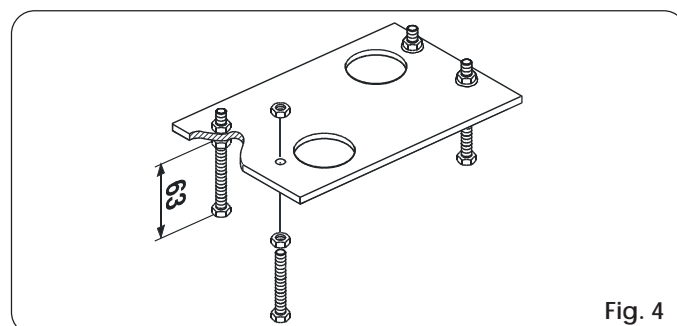

Fig. 4
- 1) Assemble the foundation plate as shown in Fig.4.